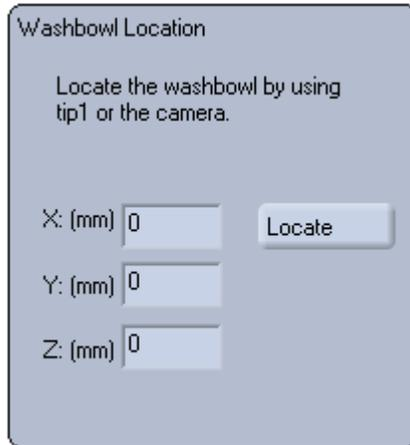

Figure 3-12. Washbowl Location Definition.
1. Click the **Locate** button within the **Washbowl Location** section of the page (Figure 3-12).